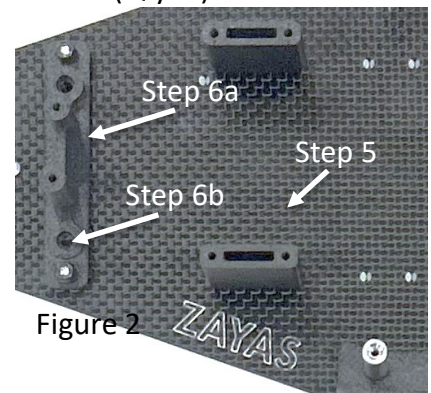

Figure 2
- ❑ **Step 6a:** Install the bellcrank adapter with the supplied 4-40 x .5" (Qty. 2) flat head screws on the middle two holes. Tighten the screws all the way. **Note:** The bellcrank adapter needs to be installed with the taller support on the left side, see Figure 2